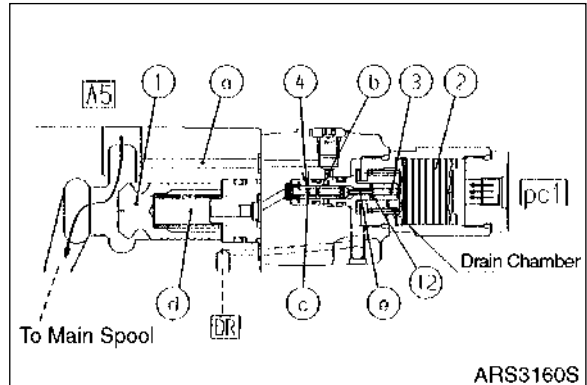

Figure 20
- A. If again piston (2, Figure 20) acts, spring chamber (d) is led through passage (c) and passage (e) and to drain chamber (DR) by T2 part.